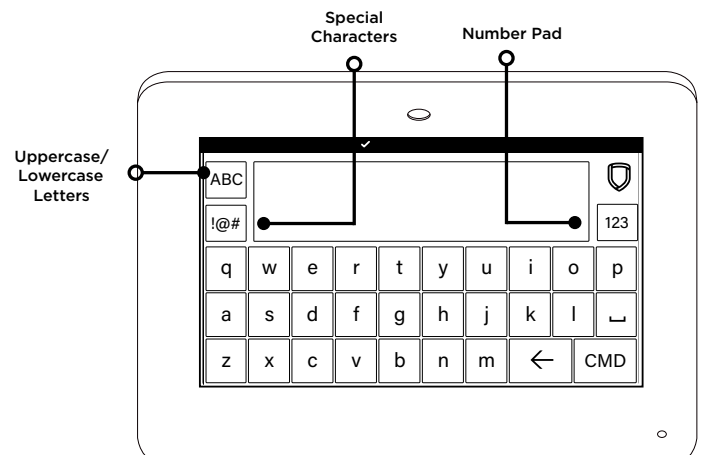

Figure 8: Standard Keyboard
- ▶ Press **123** to enter numbers and to return to the number pad. See Figure 8.